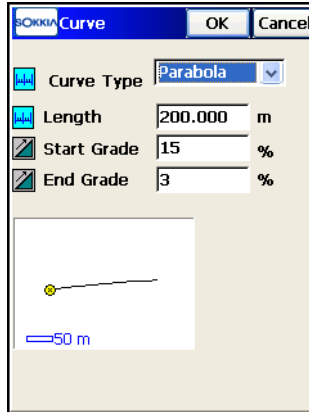

Figure 7-20. Add Vertical Curve
- On the *Curve* screen (Figure 7-20), select the type of curve to add, either *Circular Arc* or *Parabola*. The plot at the bottom of the screen shows the element appearance.